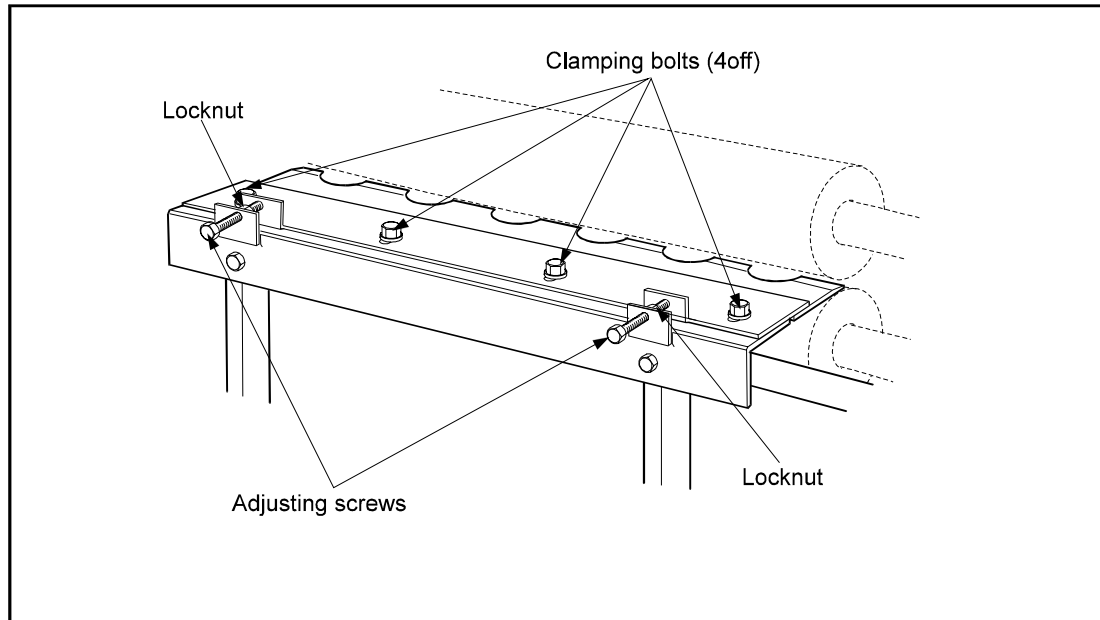

Figure 4.4 - Knife clamp bolts and adjusting screws.
11. If the knife edge does not run parallel with the centerline of the two fold rollers, release the 4 bolts on the top of the knife assembly, figure 4.4. Using the adjusting screws move the knife to its correct position. When correct tighten all bolts and locknuts.